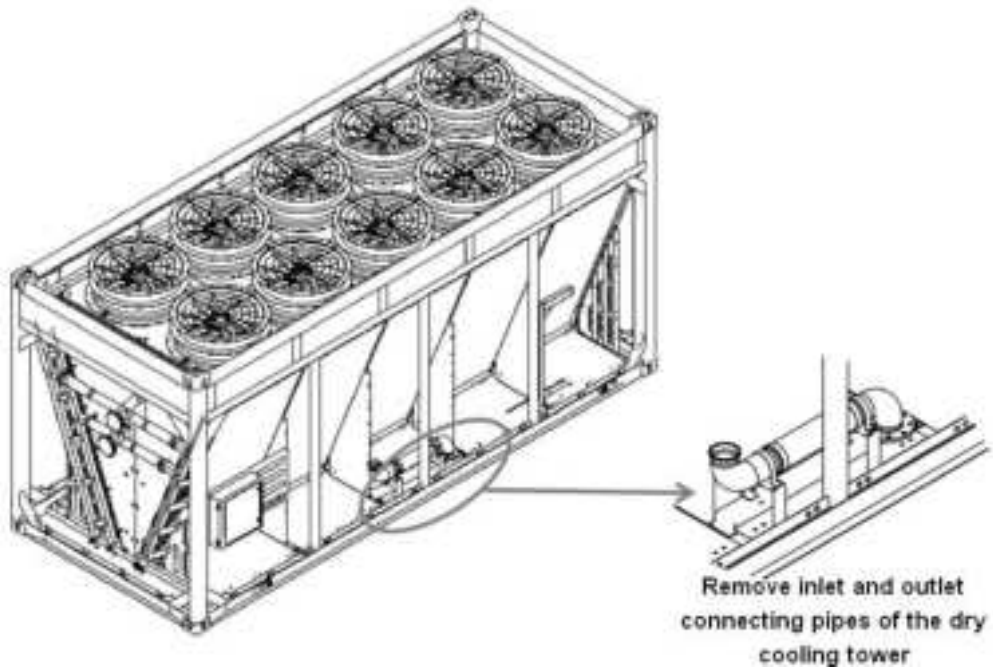

Figure 6-3 Remove inlet and outlet pipe components of the dry tower
- Remove the inlet and outlet pipe components of the dry tower, as shown in Figure 6-3.